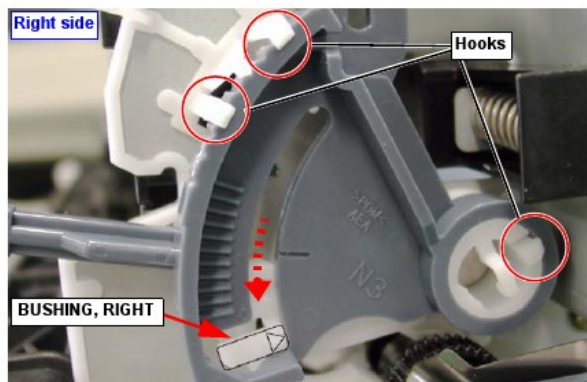

Figure 4-50. LEVER, G. ADJUST Removal 2
4. Slide the BUSHING RIGHT so that it aligns with the lower hole on the LEVER, G, ADJUST. Then release and remove 3 hooks securing the LEVER, G, ADJUST to the FRAME ASSY, RIGHT. (Refer to Figure 4-50.)